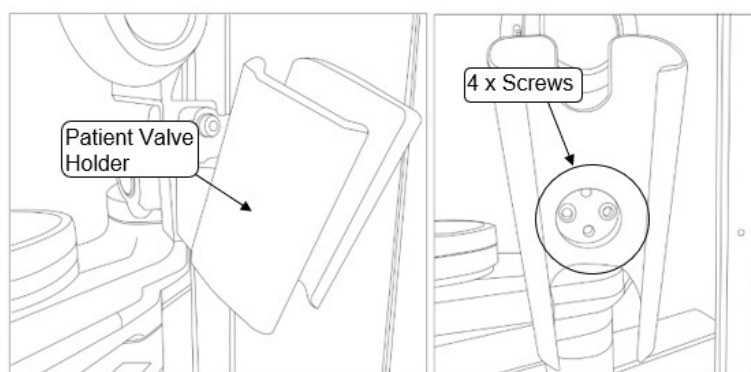

Figure 5- Patient Valve Control Arm Holder
11. Attach the Patient Valve Holder (23) from Accessories Box to the Patient Valve Control Arm Holder (25) using the four M5 bolts supplied. See figure 5 below: